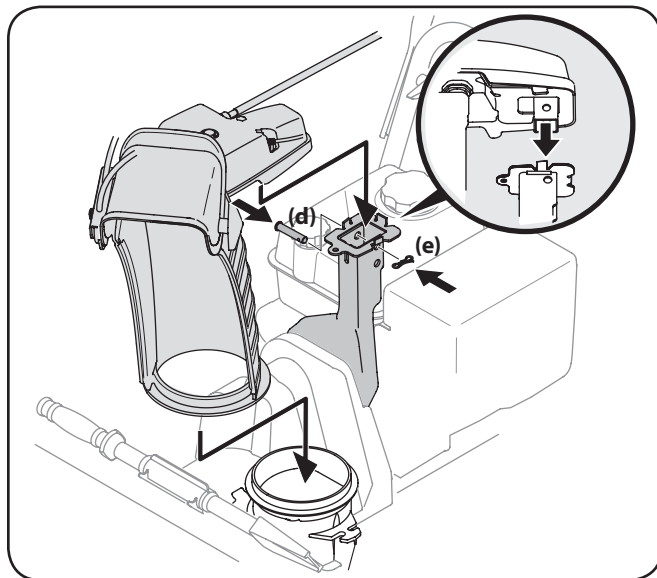

Figure 3-5
3. Place chute onto chute base and ensure chute control rod is positioned under the handle panel. Secure chute control head to chute support bracket with clevis pin (d) and bow-tie cotter pin (e) removed in step 1. See Figure 3-5.